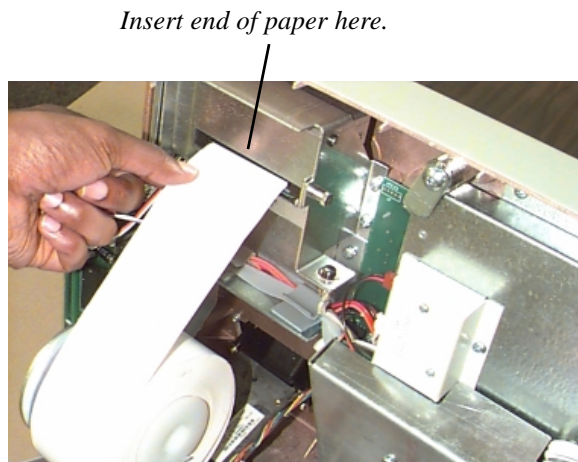

Figure 6-7. Feeding paper into the printer.
- Once the paper roll and spool are installed on the paper bracket, take the end of paper roll and feed it into the printer path paper entrance. Refer to Figure 6-7.